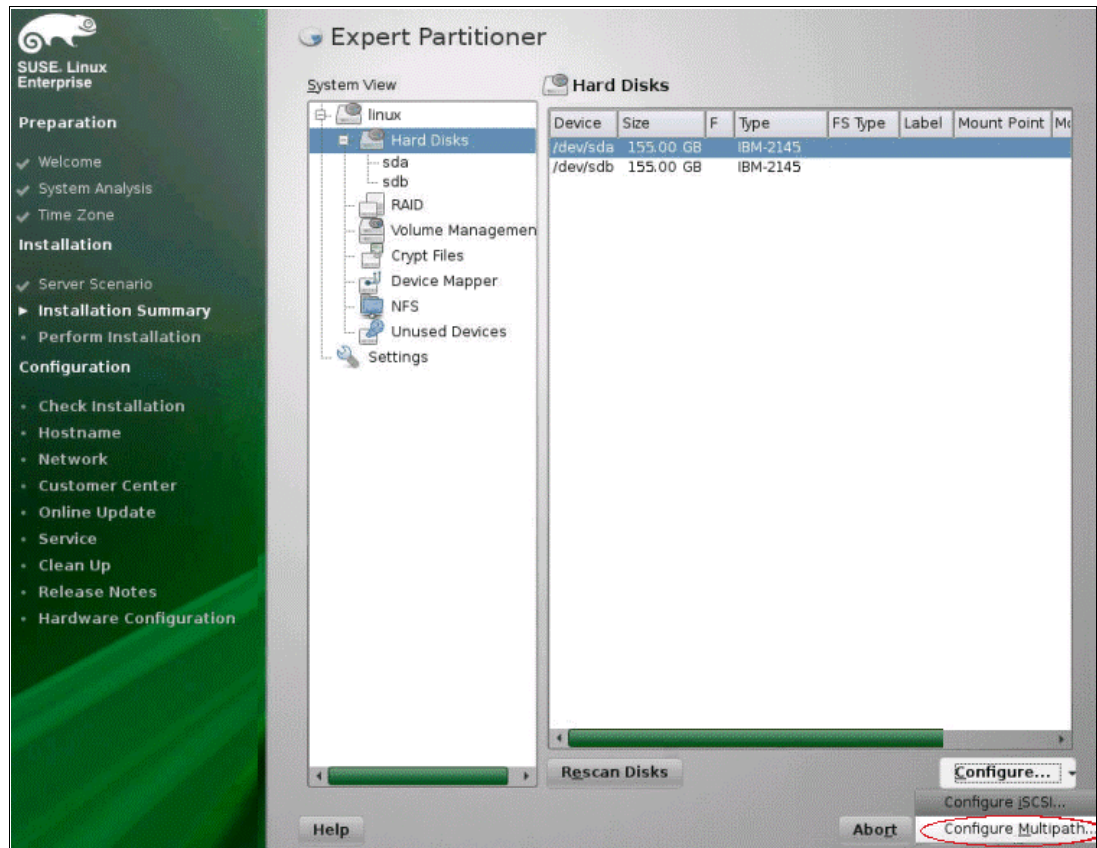

Figure 5-102 Configure Multipath
9. Click the **Hard Disks**, then click **Configure** and **Configure Multipath**, as shown in Figure 5-102.